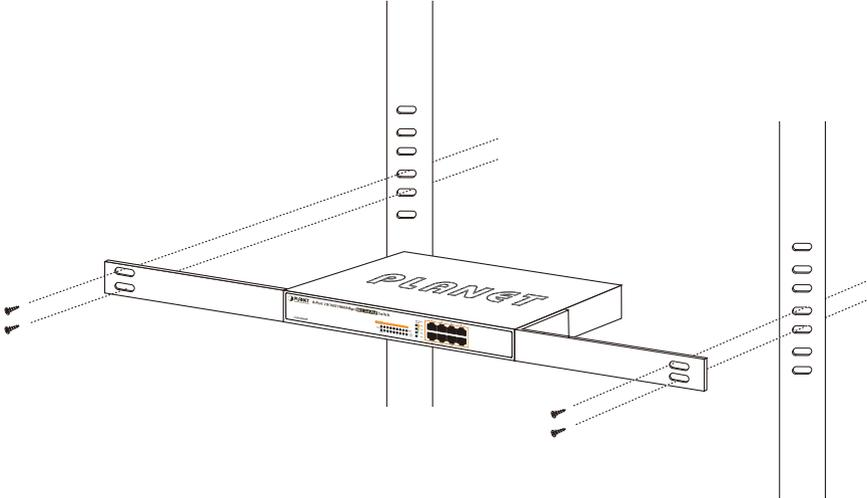

Figure 2-6: Mounting the Switch in a Rack
Step 5: After the brackets are attached to the Switch, use suitable screws to securely attach the brackets to the rack, as shown in Figure 2-6.